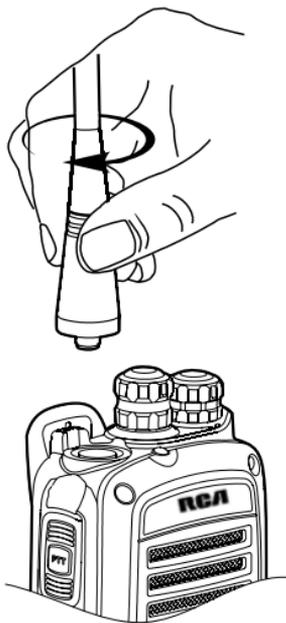

Figure 5
2. Turn the antenna clockwise until it is screwed down as shown in Figure 5 below.